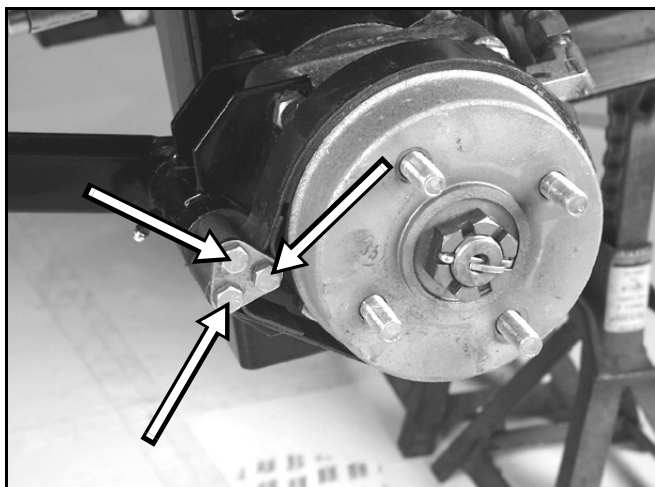

Figure 77
4. Remove the 3 bolts securing the brake band to the brake pivot (Figure 77).